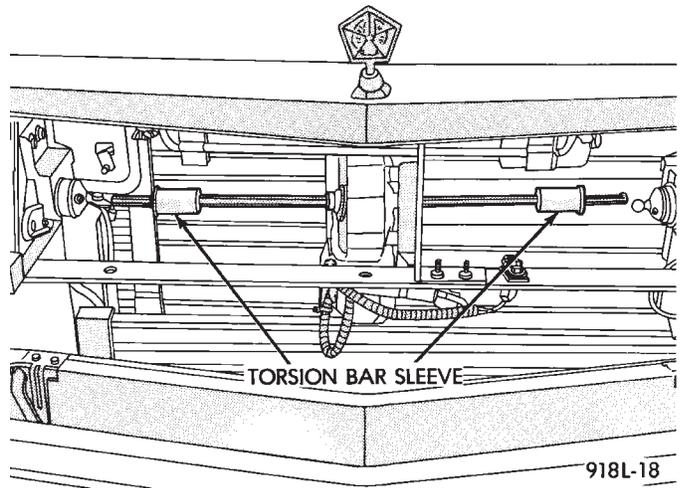
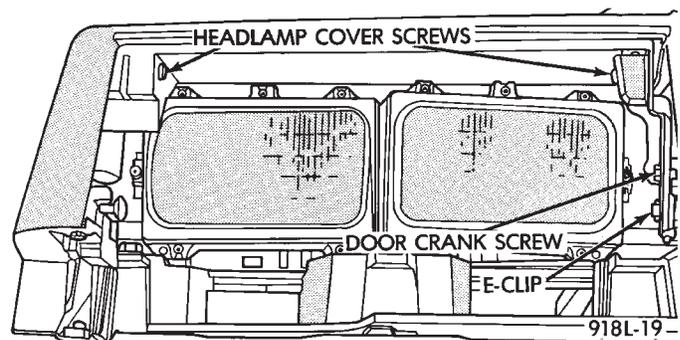
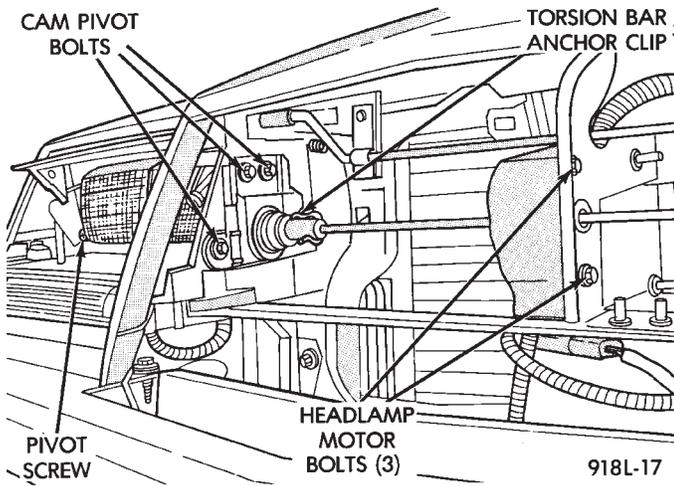

Fig. 16 Torsion Bar Sleeves
Fig. 18 Headlamp Cover/Cover Pivot Bracket
Fig. 19 Outer Pivot Screw
- (8) Slide torsion bar sleeve over the torsion bar (Fig. 16).
- (10) Remove two screws retaining headlamp cover to headlamp cover bracket (Fig. 18).
- (11) Remove outer headlamp.
- (12) Remove outer pivot screw (Fig. 19).
- (14) Remove three bolts retaining cam pivot to body and remove cam pivot (Fig. 19).
- (15) Remove Headlamp door assembly.
- (5) Slide torsion bar sleeves over the torsion bar (Fig. 16).
- (6) Disconnect wire connector from motor.
- (7) Remove motor mounting bolts (Fig. 19).
Loosening the cam pivot bolts (Fig. 19) will allow an up/down or in/out adjustment of the headlamp doors.